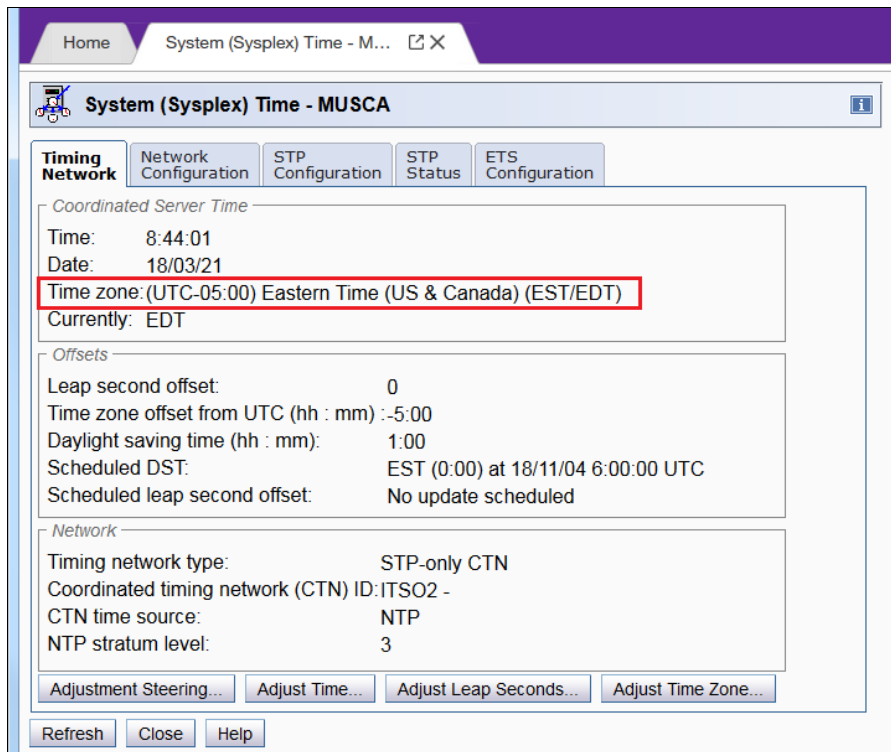

Figure 5-44 System (Sysplex) Time: Timing Network
17. Click the **Timing Network** tab to check or set the Time for this CPC. Adjustments can also be made here if the CPC lost its ETS and drifted too far from the time zones time (see Figure 5-44).